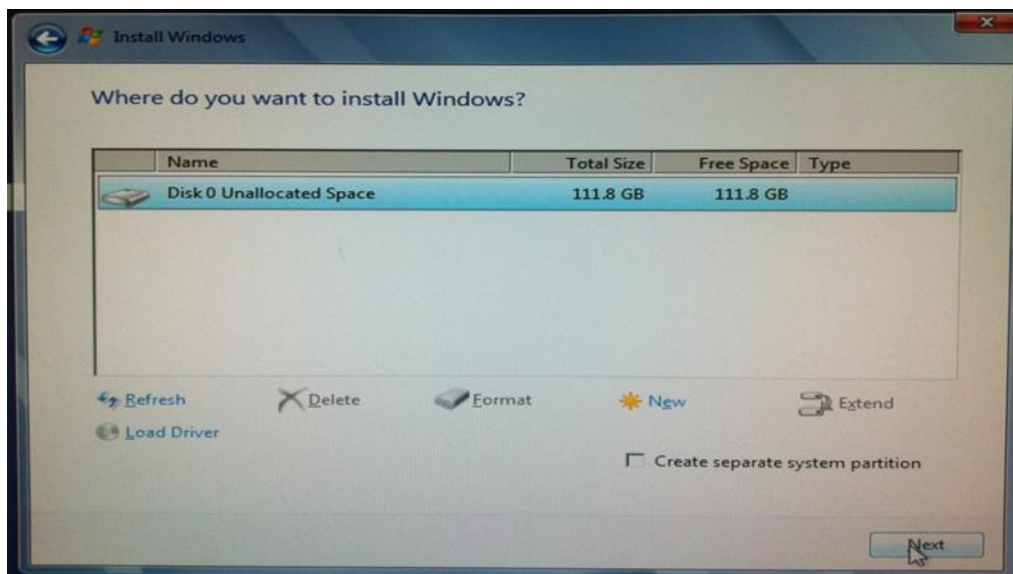

Figure 28: Where do you want to install Windows?
7. Select a disk install location as shown in Figure 28. You may want to delete any existing partitions that appear in the list. If not, you can use an unallocated section or create one using the options. Note that you will likely need at least 8GB of free space for an install depending on which image options and features you chose in step 5. When you are finished, click Next.